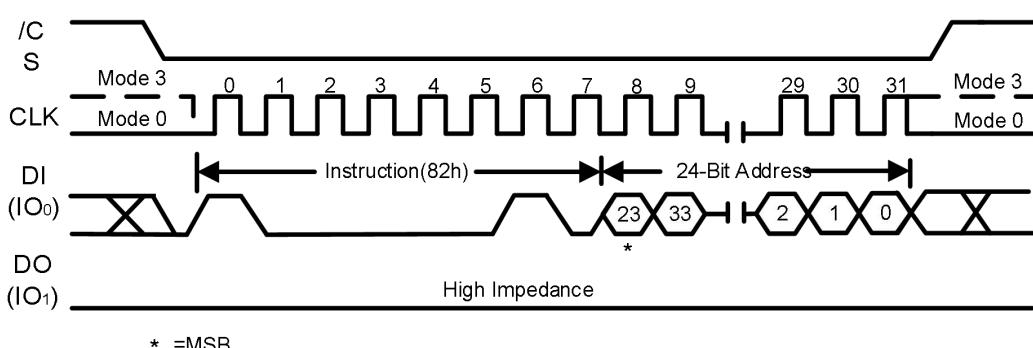

Figure15. Mini Sector Erase Sequence Diagram
The Mini Sector Erase command sequence: CS# goes low → sending Sector Erase command → 3-byte address on DI → CS# goes high. The command sequence is shown in Figure15. CS# must be driven high after the eighth bit of the last address byte has been latched in; otherwise the Mini Sector Erase (MSE) command is not executed. As soon as CS# is driven high, the self-timed Mini Sector Erase cycle (whose duration is  $t_{MSE}$ ) is initiated. While the Mini Sector Erase cycle is in progress, the Status Register may be read to check the value of the Write in Progress (BUSY) bit. The Write in Progress (BUSY) bit is 1 during the self-timed Mini Sector Erase cycle, and is 0 when it is completed. At some unspecified time before the cycle is completed, the Write Enable Latch (WEL) bit is reset. A Mini Sector Erase (MSE) command applied to a sector which is protected by the Block Protect (SEC, TB, BP2, BP1, and BP0) bit (see Table 1-6) is not executed.
The Sector Erase command sequence: CS# goes low → sending Sector Erase command → 3-byte address on DI → CS# goes high. The command sequence is shown in Figure15. CS# must be driven high after the eighth bit of the last address byte has been latched in; otherwise the Sector Erase (SE) command is not executed. As soon as CS# is driven high, the self-timed Sector Erase cycle (whose duration is Tse) is initiated. While the Sector Erase cycle is in progress, the Status Register may be read to check the value of the Write in Progress (BUSY) bit. The Write in Progress (BUSY) bit is 1 during the self-timed Sector Erase cycle, and is 0 when it is completed. At some unspecified time before the cycle is completed, the Write Enable Latch (WEL) bit is reset. A Sector Erase (SE) command applied to a sector which is protected by the Block Protect (SEC, TB, BP2, BP1, and BP0) (see Table 1-6) is not executed.